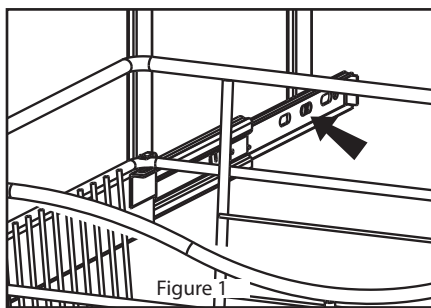

Figure 1
1. Align top mounting bracket with basket slides as shown in Figure 1. Attach using the 8 included flat head machine screws.